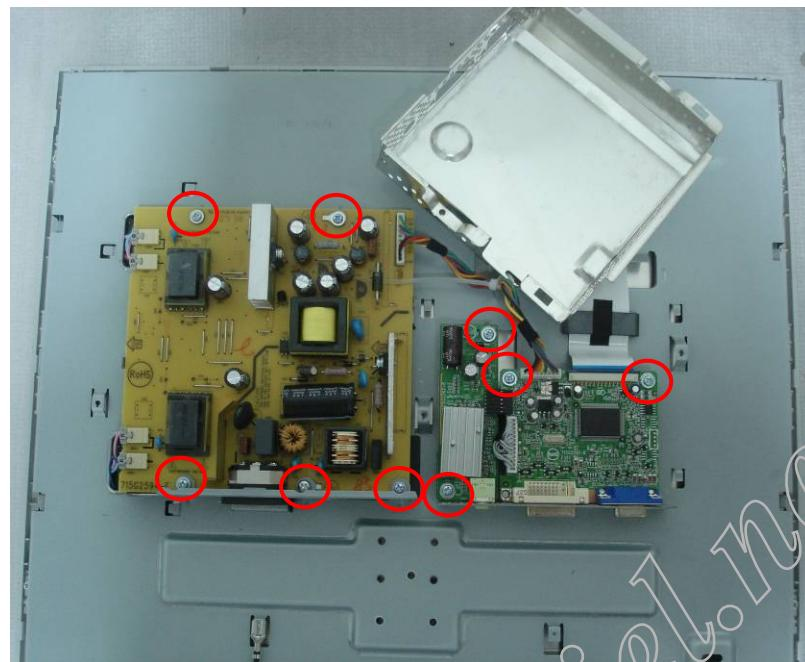

Fig.7
**7. Remove the main board, audio board and the power board. as Fig.7**
Remove the 9 screws as Fig.7 to remove the main board、audio board and the power board.